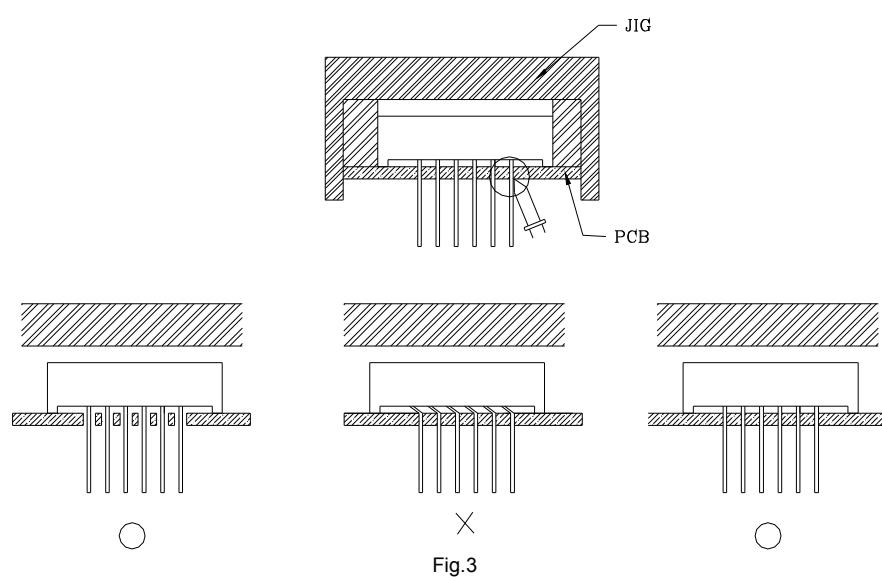

Fig.3
1) When mounting the Display by using a case, as shown Fig.3, ensure that the mounting holds on the PC board match the pitch of the PIN correctly-tolerance of dimensions of the respective components including the Display should be taken into account especially when designing the case, PC board, etc. to prevent pitch misalignment between the PIN and board holes, the diameter of the board holes should be slightly larger than the size of the PIN. Alternatively, the shape of the holes should be made oval. (See Fig.3)